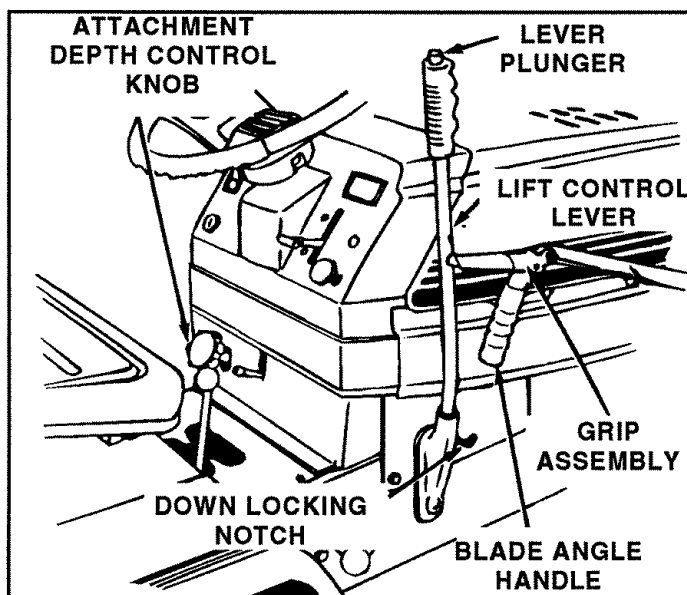

FIGURE 28
17. Move attachment lift lever all the way forward and lock in position. See figure 28 on page 10.
Located on right hand side of tractor. See figure 28. Move lever forward to lower dozer blade. Pull lever back to raise dozer blade. Pulling lever all the way back locks dozer blade in up position.
Located on top of lift control lever. See figure 28. Pull back on lift control lever and depress plunger to release.
Adjust lift control lever movement with attachment **DEPTH CONTROL KNOB** (see figure 28) for **maximum movement** between locking notches and to prevent lever from locking in the down lock notch. See figure 28.
Located on right hand side of tractor. See figure 28. **NOTE: Always raise dozer blade and lock in "up" position before moving angle control handle.** Depress grip assembly to release blade angle lock and push/pull **angle control handle** forward to move dozer blade angle to left, center, right and release grip to lock.